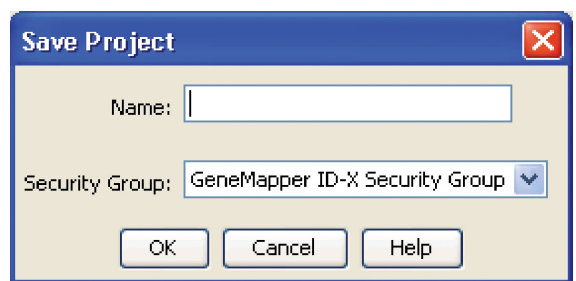

Figure 20. 'Save Project' Window.
9. If all analysis requirements are met, the 'Save Project' window will open (Figure 20).